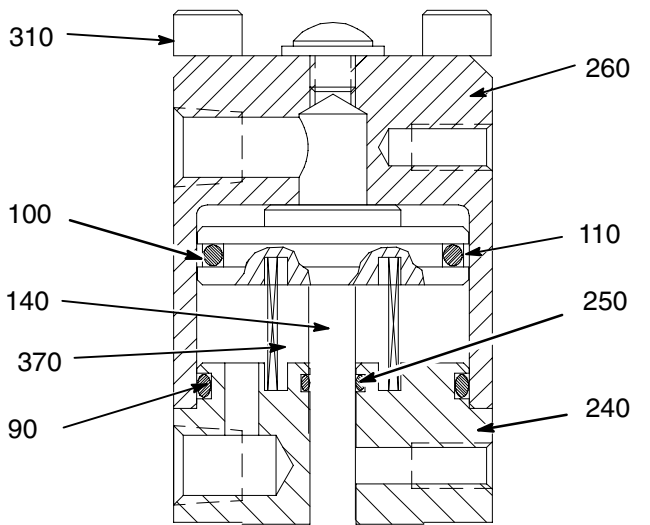
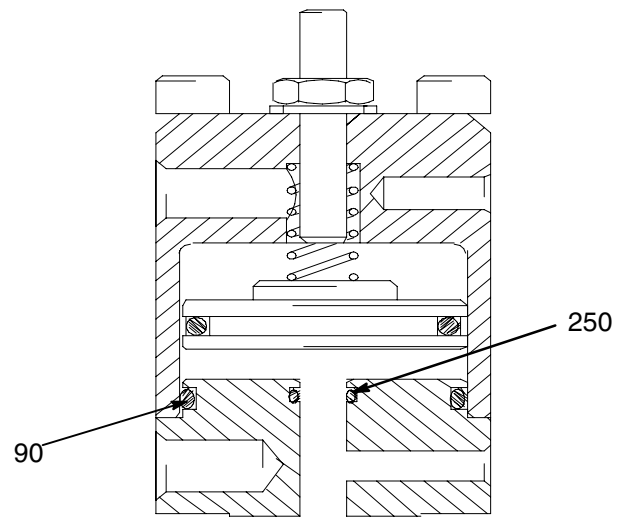

Fig. 11 **Snuff-Back Valve Shown**
Fig. 12 **Base Seal Valves**
4. Reassemble cap and base (Fig. 11):
- a. Lubricate o-ring (100) and ring (110).
- b. Insert o-ring (100) into needle piston (140) groove.
- c. Slide ring (110) on top of o-ring (100).
- d. Lubricate, then replace o-rings (90) and (250). Insert spring on base seal models (Fig. 12).
- e. Insert needle assembly into cylinder cap (260).
- f. Place spring (370) over shaft of needle/piston. Seat spring in groove on piston face on snuff-back models (Fig. 11).
- g. Slide base (240), over the needle, into the cylinder cap (260). Seat spring (370) in groove on base.